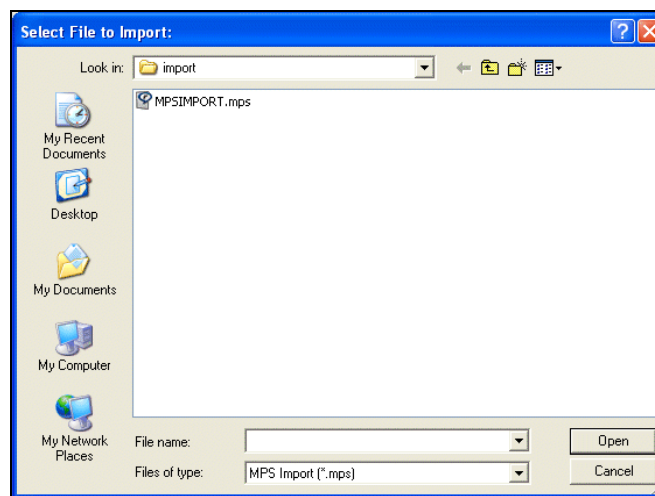

Fig. 56 — MPS import file browser
3. A window is displayed to select the MPS file for import (Fig. 56). The default import directory is C:\MMPC\IMPORT. However, the user may browse to another directory to locate the import file. Double click on the file name to select it. Import files must contain a “.mps” suffix for the filename.